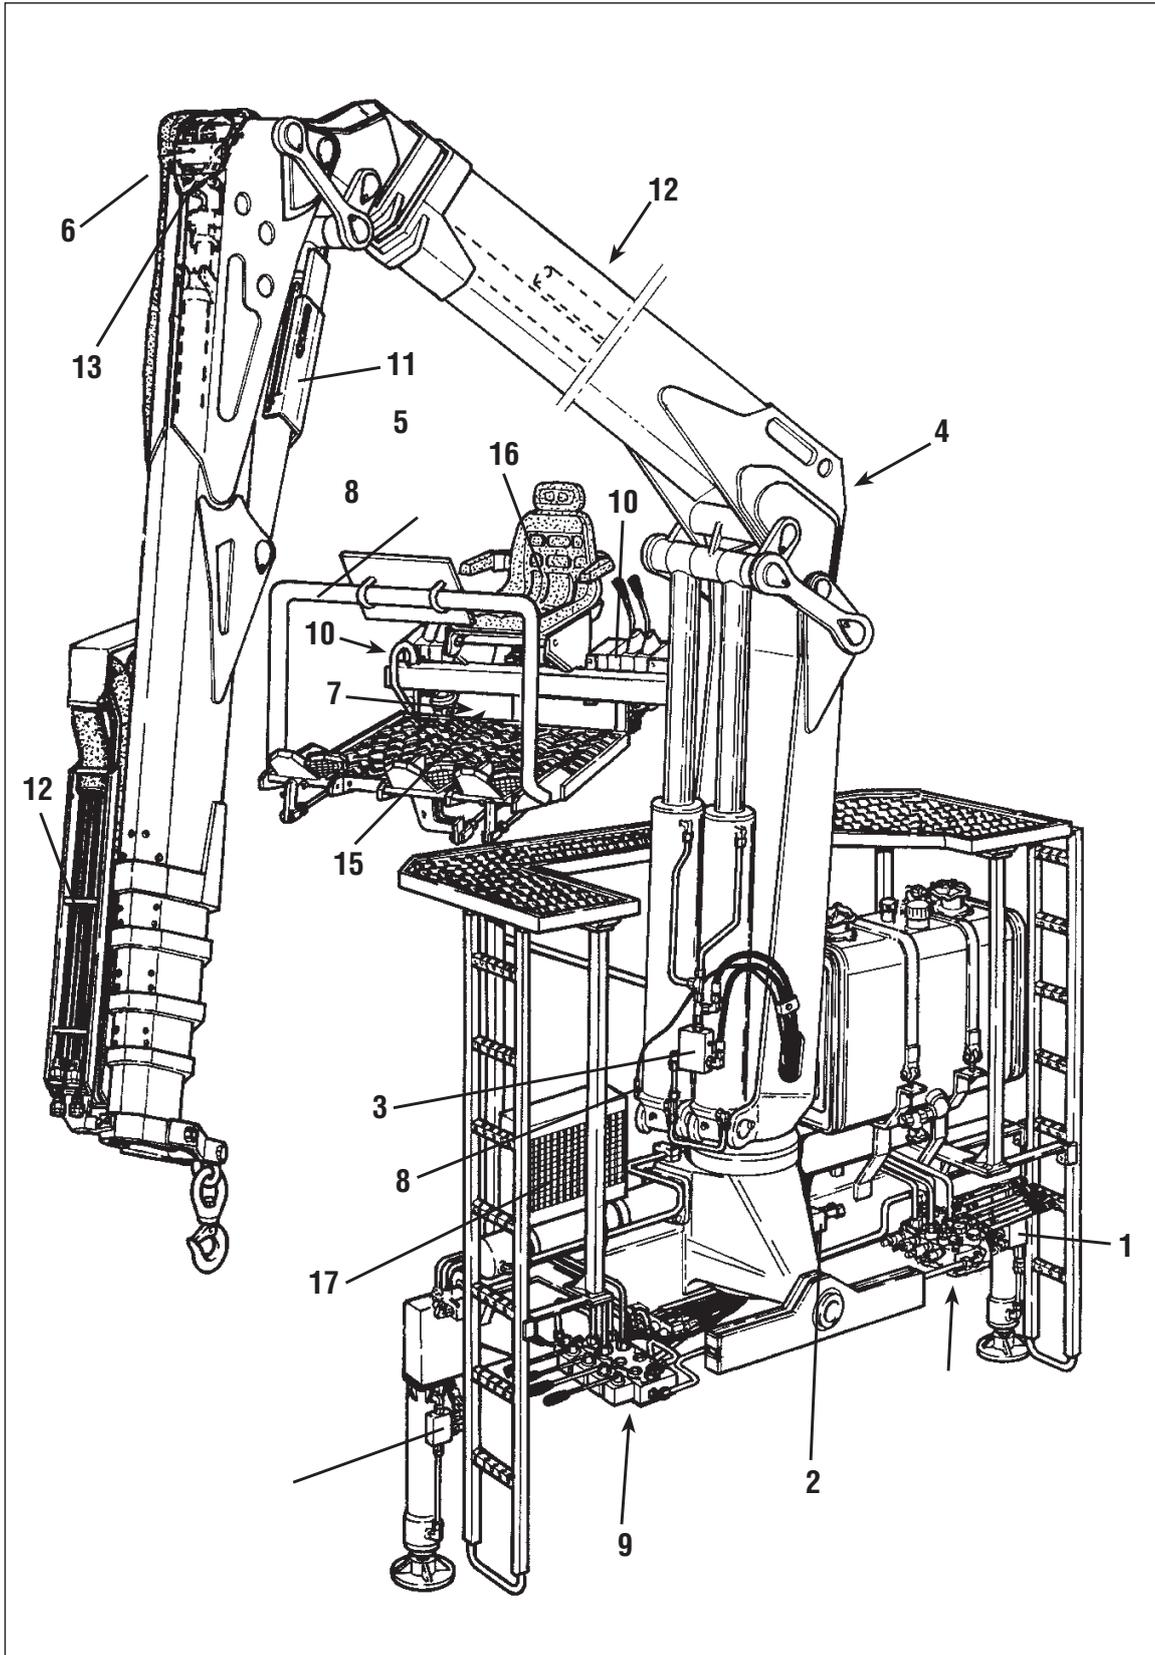

fig. 4
**SAFETY AND PROTECTION DEVICES** (fig. 4)